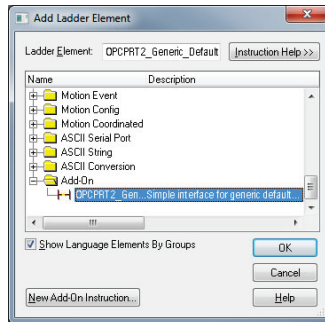

Figure 60: Add Generic Default Add-On Instruction
- 8) Select the generic default I/O add-on instruction in the Add-On folder. Refer to Figure 60.